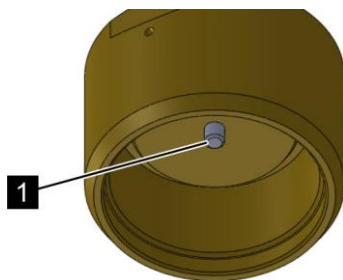

Fig. 169: Release pin
5. ➔ Check whether the release pin (Fig. 169/1) protrudes on the release device. Target dimensions: $8.1 +0.65/-0.55$ mm ($0.319 +0.026/-0.022$ inches).